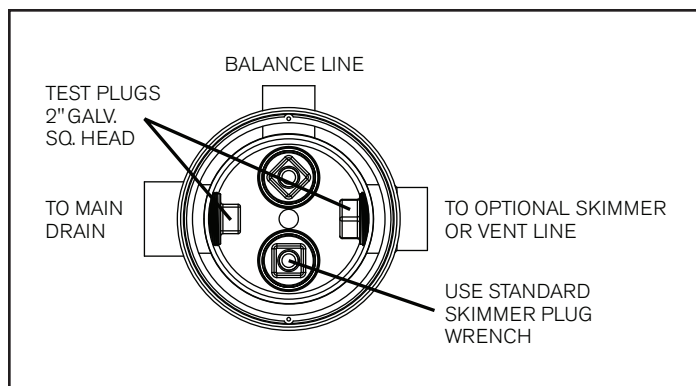

Fig. 8
4. Grasp the top of the magnet assy with the pliers and pull it out of the groove it sits in.(Fig 8)
## MVFUSE WARNING LABEL (Fig 8)
Attach is the label to the control panel next to the controller for the pump with the MVFUSE plumbed to it. **(See Fig. 8)**